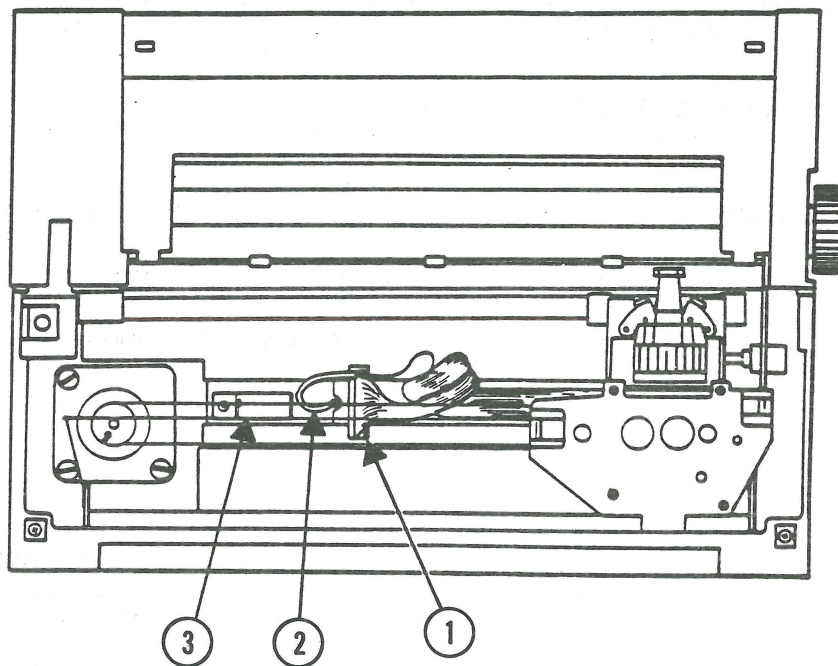

FIGURE 17
7. Push the print head connector (Figure 17, #1) back into the CPU PC board.
8. Tuck the ground wire (Figure 17, #2) of the print head cable under the metal clip (Figure 17, #3).